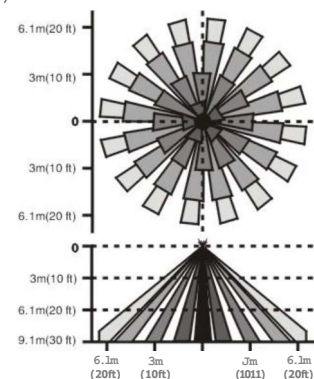

Fig1 Sensor Coverage Area
- 15to 20 ft (4.57 to 6.1 m) radial coverage overlaps area lit by a typical high bay fixture (refer to Fig1).